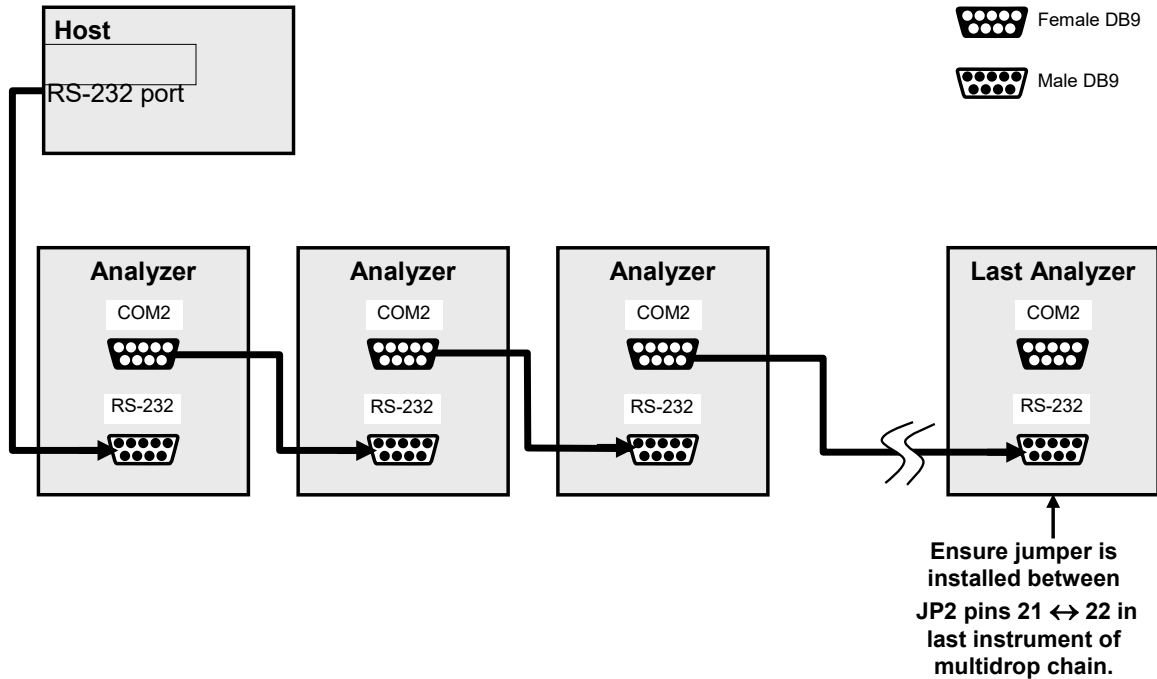

Figure 2-13. RS-232-Multidrop PCA Host/Analyzer Interconnect Diagram
5. Referring to Figure 2-13 use straight-through DB9 male → DB9 female cables to interconnect the host RS232 port to the first analyzer's RS232 port; then from the first analyzer's COM2 port to the second analyzer's RS232 port; from the second analyzer's COM2 port to the third analyzer's RS232 port, etc., connecting in this fashion up to eight analyzers, subject to the distance limitations of the RS-232 standard.